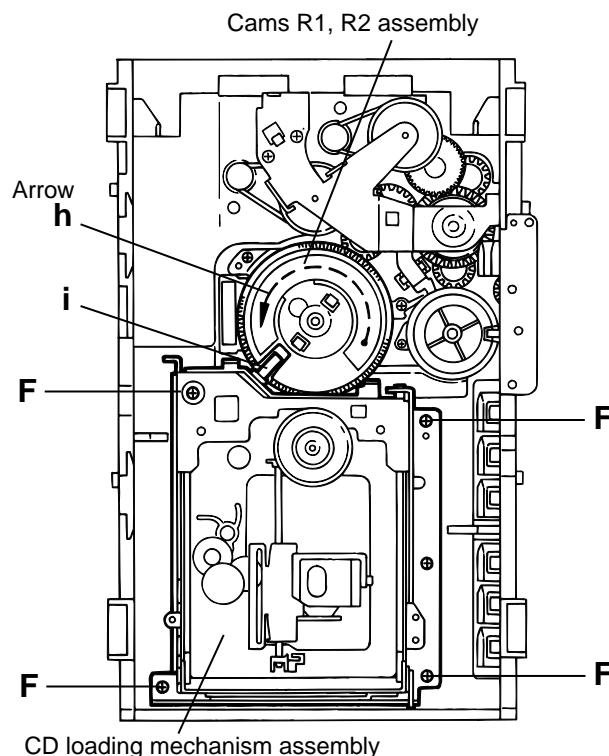

Fig.10
## ■ Removing the CD loading mechanism assembly (See Fig.10)
1. While turning the cams R1 and R2 assembly in the arrow direction "h", align the shaft "i" of the CD loading mechanism assembly to the position shown in Fig.10.